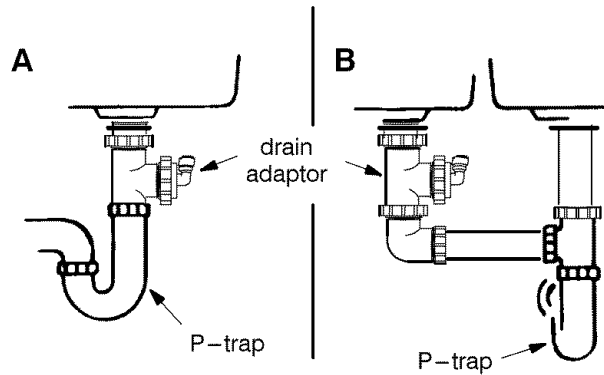

Figure 4
1. Use a ferrule and nut to assemble the drain tubing connector to the drain adaptor. See Figure 4. Turn the connector to about 45° from the 12:00 position, as shown (to 10:00 or 2:00 position as needed). Tighten the nut securely.